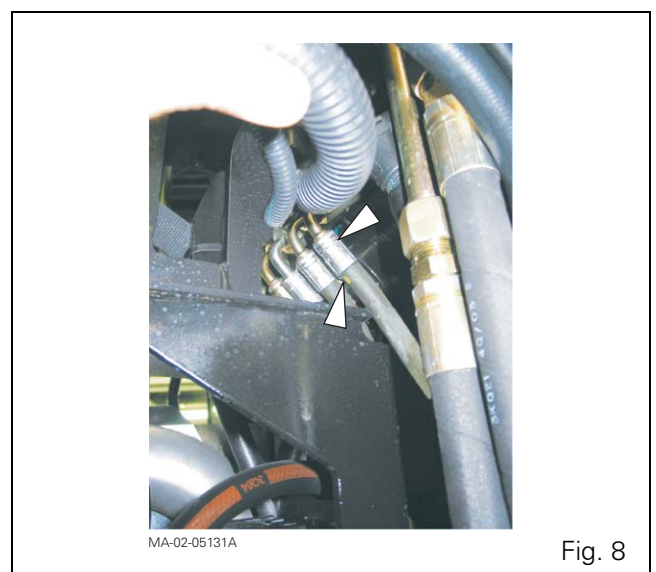

Fig. 8
22. If necessary, mark and disconnect (Fig. 8):